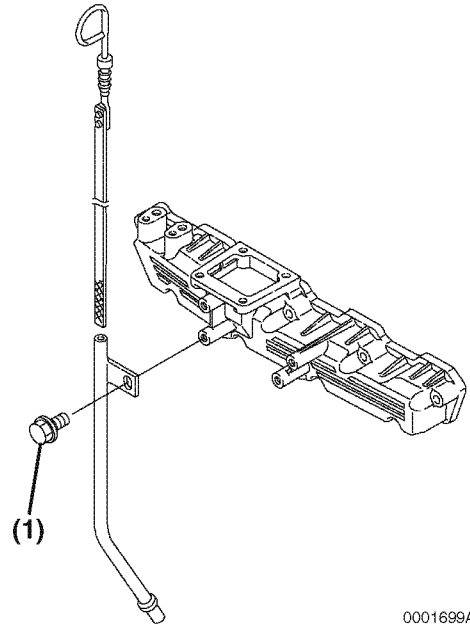

Figure 7-42
Note: It is necessary to remove the bolt **(Figure 7-42, (1))** holding the dipstick tube clamp. Rotate the dipstick tube to one side to allow you to remove the high pressure fuel line assembly.